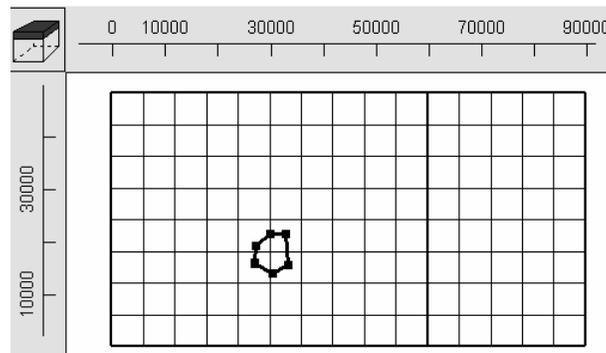

Figure 48. Polygon used to specify the specified head boundary condition in example 3.
15. The next boundary condition is a specified head boundary (Lake Stanley Draper, figure 48). On the top view of the model, it looks like the lake only affects one node. However, it actually extends from an elevation of 300 to 400. Thus, it affects two nodes: one in the top layer and one in the layer just beneath it. Draw a polygon surrounding the node at (30,000, 18000) on the top view of the model. In the **Object Properties** dialog box, select the **Nodes** radio button. Set its **Name** to “Lake_St Stanley_Draper.” Check the **Set values of enclosed nodes** checkbox. Set the **Higher Z-coordinate** to 400 and the **Lower Z-coordinate** to 300. On the **Boundary Conditions** tab, select a **Specified head** boundary and set the **Head** to 348 and the **Associated solution** to 1. Click **OK** to close the dialog box.